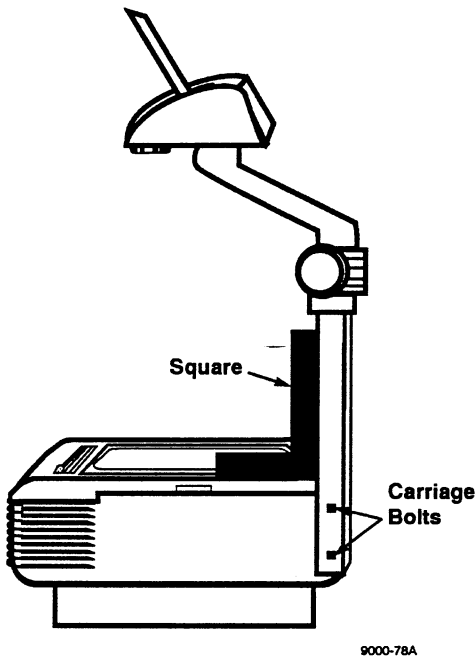

Figure 4-5. Post Alignment
1. Loosen carriage bolt attaching the post to the base. Figure 4-5.